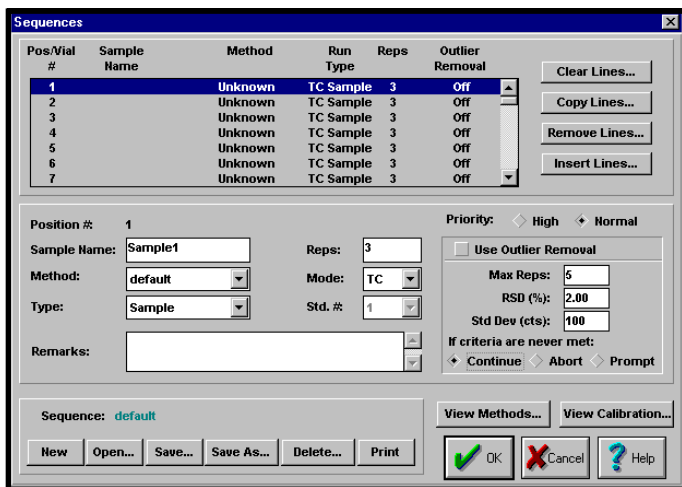

Figure 4.7. Sequences Screen
1. From the Status Screen, go to the **Databases** menu and select **Sequences**. This will access the Sequences Screen (Figure 4.7).
5. From the Status Screen, go to the **Databases** menu and select **Sequences**. This will access the Sequences Screen (Figure 4.7).